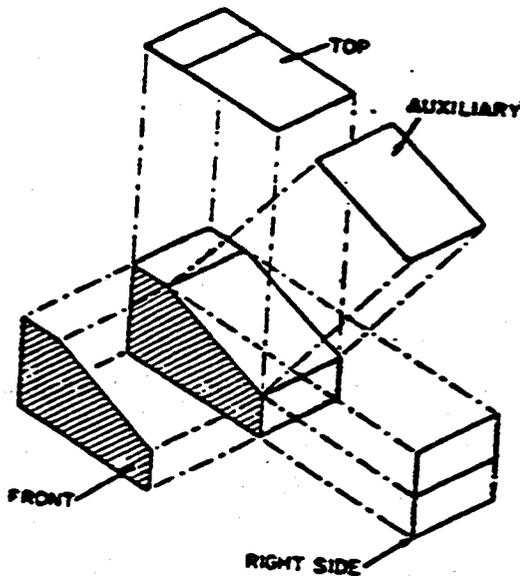
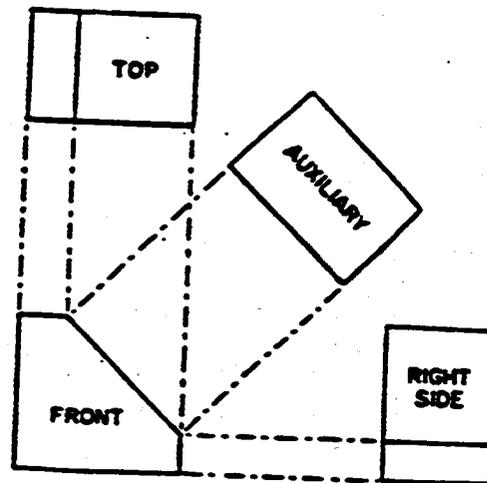

Fig 1-20. Auxiliary projection principle.
Fig 1-21. Auxiliary arrangement.
a. Auxiliary views. If a feature of an object is in a plane which is not parallel to one of the drawing planes, it will not appear in true size or shape in any of the three normal views. The sloping surface of the object in figure 1-20, for example, appears in both the top and right side views but is foreshortened in both. In this case, an auxiliary projection is added. The auxiliary view is obtained by projecting lines to a drawing plane which is parallel to the slanted face. The auxiliary view is normally placed alongside a view which shows the true length of the edge of the slanted surface as shown in figure 1-21. In this case, the auxiliary view is related to the front view in the same way as the top or right side view is related to the front view.